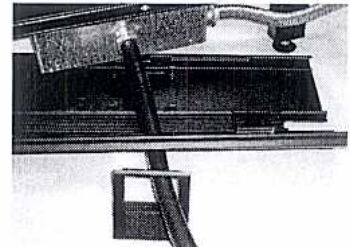

fig 4
5. Route the base cover and the receptacle/data bezel around the liquidtight conduit so the conduit goes through the top opening of the bezel. (see fig 4)